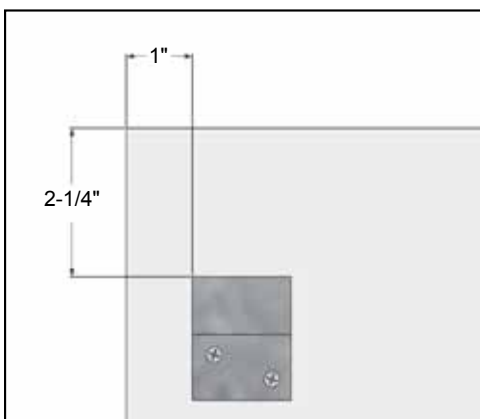

Figure 3
2. Install the z-clips to the wall as shown. Type and strength of wall attachment selected by the installer. (*Figures 3 and 4*)